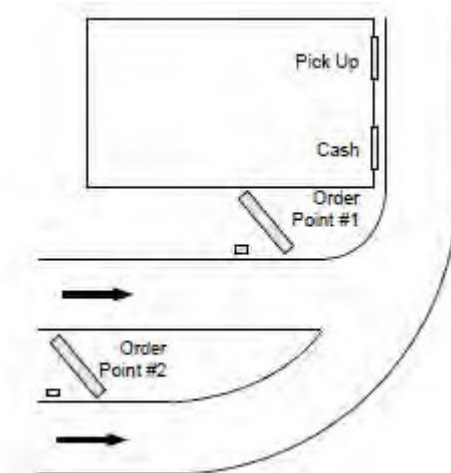

Figure 3.
- A *Side-by-Side Drive-Thru*, (See Figure 3) also known as a “Y” or “Merge” drive-thru, is comprised of two lanes of ordering traffic side-by-side, each with its own ordering point, but merges into a single lane with one or two drive-thru windows for payment and pick up.